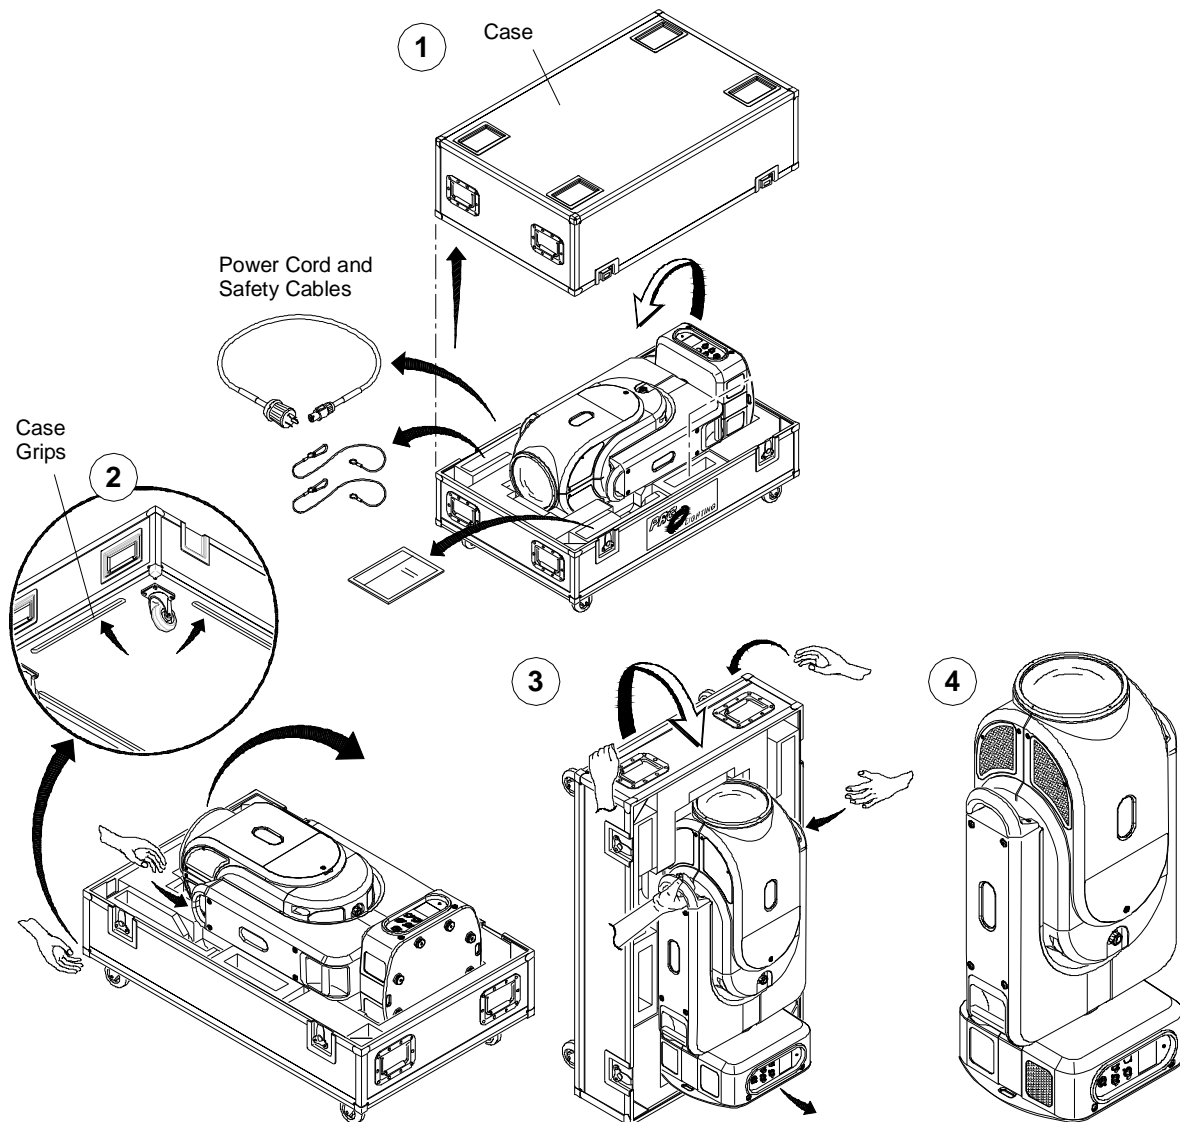

Figure 2-8: Standing Position
- Step 1. Unlatch and remove case lid (**Figure 2-8**).